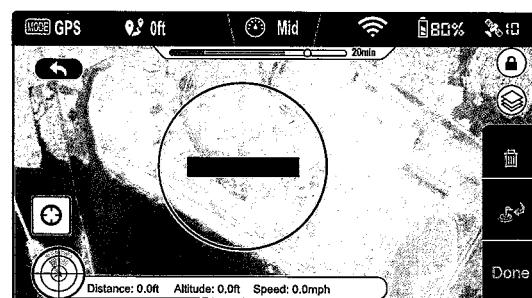

Figure 104
- A circle on the map, as shown in Figure 104, indicates a restricted, No Waypoint area. Waypoints cannot be placed in this area. For more information, refer to “6.2 Flight Restriction of Restricted Areas \(P30\)”.